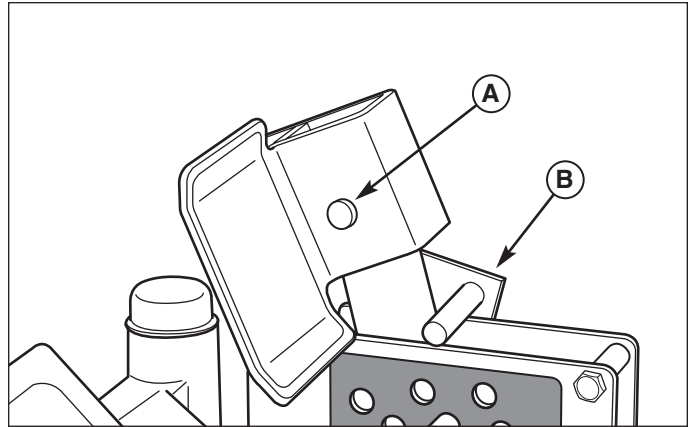

Figure 39. Remove Lift Pedal
2. See Figure 39. Remove the hairpin clip and clevis pin and remove the deck lift foot pedal. Lift the floor plate to gain access to the PTO drive belt.
7. Lower the floor pan and reinstall the deck lift foot pedal, clevis pin and hairpin clip. Make sure the deck lift lock bar is located as shown in Figure 39.